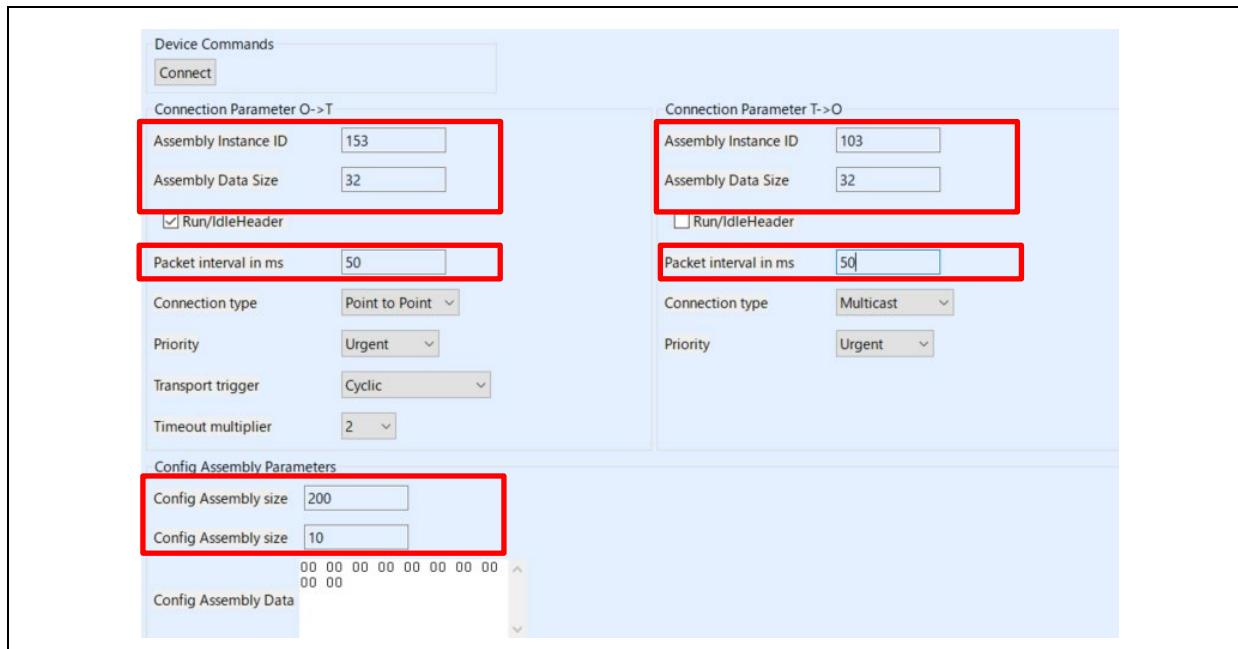

Figure 3-40 Mirror application (RPC) parameter
Refer to Table 3-3 and Table 3-4 to set the connection parameters. Figure 3-40 shows an example of a communication configuration for Mirror Data Reception\_2 (153) and Mirror Data Transmission\_2 (103).